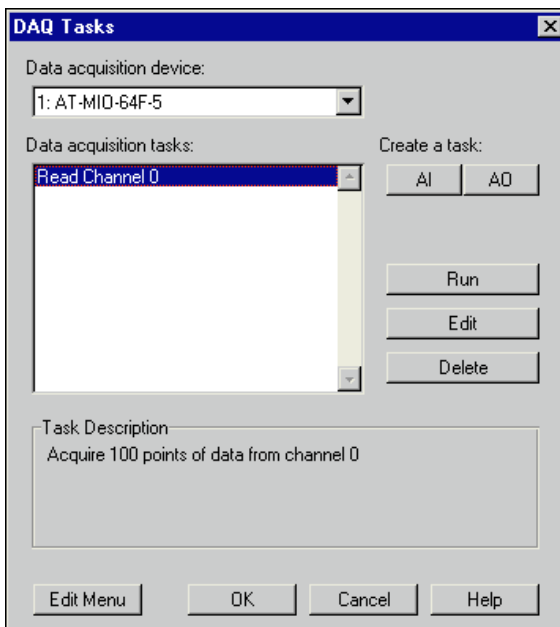

Figure 2-4. DAQ Tasks Dialog Box
7. Click on the **OK** button to return to the DAQ Tasks dialog box, as shown in Figure 2-4. Notice that you now have a task named Read Channel 0 in your task list and that the description for this new task appears in the dialog box as well.